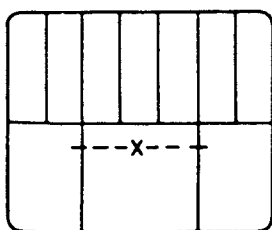
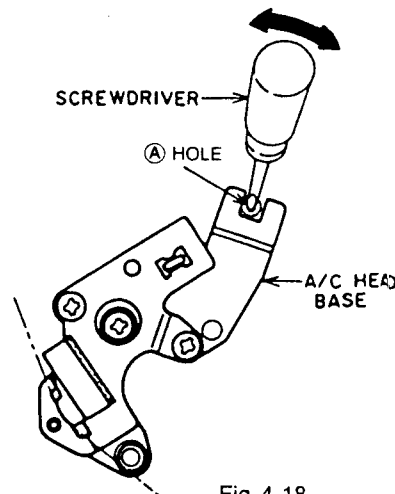

Fig. 4-16
Fig. 4-18
- 3) Set the tracking position to the center of the TV screen as shown in Fig. 4-16. (Refer to "TRACKING ADJUSTMENT" in the INFORMATION section for details)
- 4) Loosen the ③ screw slightly so that the A/C HEAD PLATE can be moved with reasonable tightness.
- 5) Insert a sharp flat head (—) screwdriver into the A/C HEAD BASE and ④ hole as shown in Fig. 4-18.
- 6) Move the A/C HEAD BASE by moving a screwdriver in the direction of the arrow as shown in Fig. 4-18 to obtain the maximum RF output, then tighten the ③ screw.